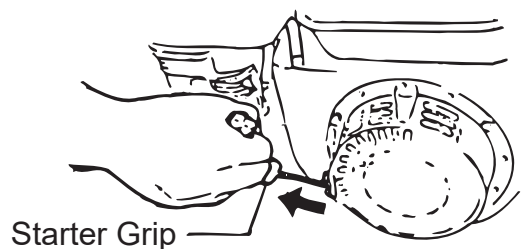

Fig. 17
5. Grip the starting knob of the recoil starter. When you pull the rope a little, you will feel some resistance. Then pull it at a stroke. Be careful not to pull the rope too strongly, or the rope may break or come off. (Fig. 17)